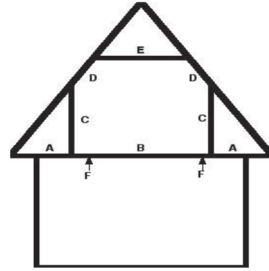

Figure 7-107.
The distinction with the Cape Cod home (Figure 7-107) from other platform-framed homes is in the attic space (see above diagram). This half story attic above the first floor has unconditioned spaces surrounding it, including knee walls (C), essentially vaulted ceiling rafter cavities (D), and a small collar beam attic at the peak (E). Note that there